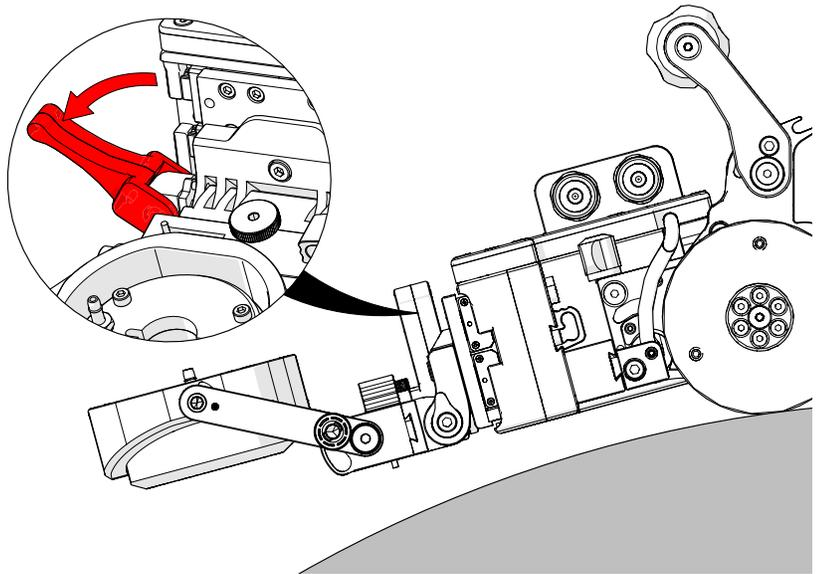

Fig. 70 - Release Raster Arm HT pivot nose latch
6. Release the Raster Arm HT pivot nose latch (Fig. 70).